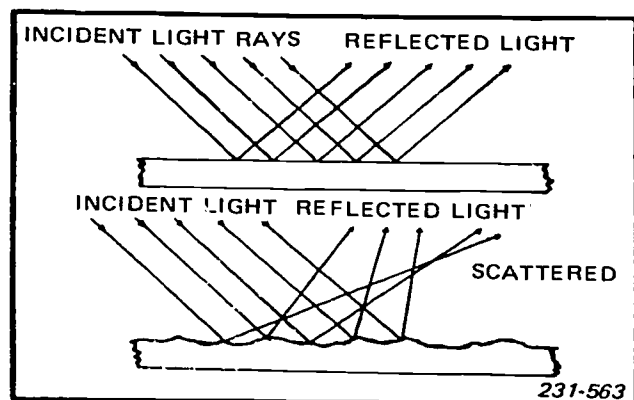

Figure 1-1. Specular and diffused reflections.
**Reflection.** When light hits an object and is cast back, it is reflected; this light that falls on an object is called incident light. There are two types of reflection. Light that strikes a smooth, polished surface and reflects back at the same angle is known as specular reflection. Light that strikes a rough surface and reflects back in many directions is called diffused reflection. Figure 1-1 shows light reflected from both smooth and rough surfaces. Remember, reflections from rough surfaces are called diffused reflections and those from smooth or polished surfaces are called specular reflections. Diffused reflections form the middle tones in a photograph and specular reflections form the bright areas in a photograph.